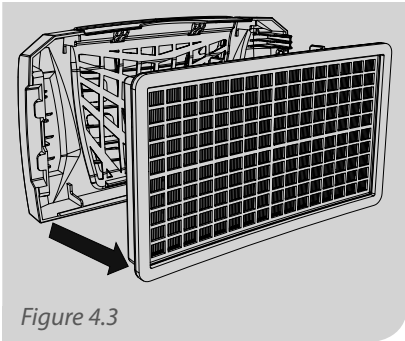

Figure 4.3
3. **BREATHING TUBE:** Inspect the breathing tube completely, looking for splits and cracks in the tube, the fittings are held securely in the tube and that the O-ring is in place on the bayonet fitting that inserts into the PX4. Make sure that the breathing tube fits firmly into the PX4 unit and seals without any leaks around the connection. See Fig 4.3 and 4.4